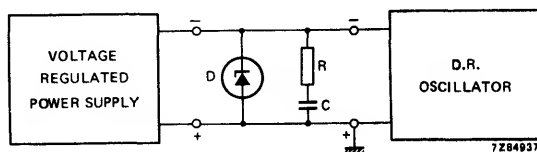

Fig. 3 Bias configuration for dielectric resonator stabilized Gunn oscillator.
3. It is recommended that a series R-C filter be connected in parallel with a voltage regulator diode across the oscillator supply voltage terminals. The filter prevents low-frequency bias supply oscillations, while the regulator diode protects the Gunn diode against transients. See Fig. 3.